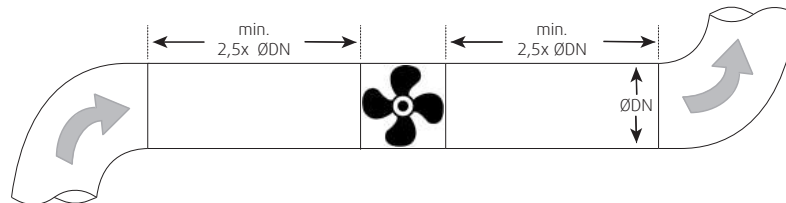

Fig. 1 Straight ducts
- ◆ Ensure a smooth and constant air flow to the device. Ensure a free exhaust. See Fig. 1 *Straight ducts*, page 12.